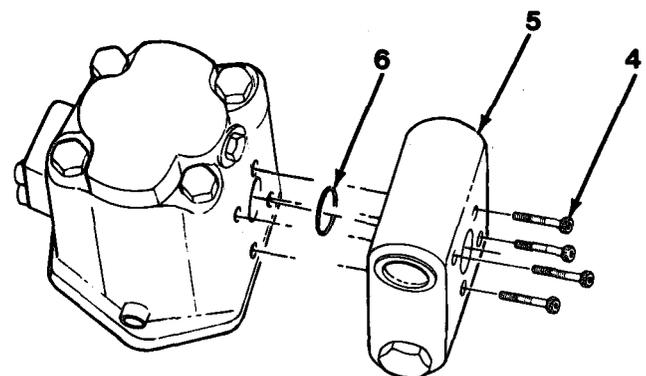

Figure 16-4
16. Install O-ring (6), winch brake valve assembly (5) and four allen screws (4, Figure 16-4).